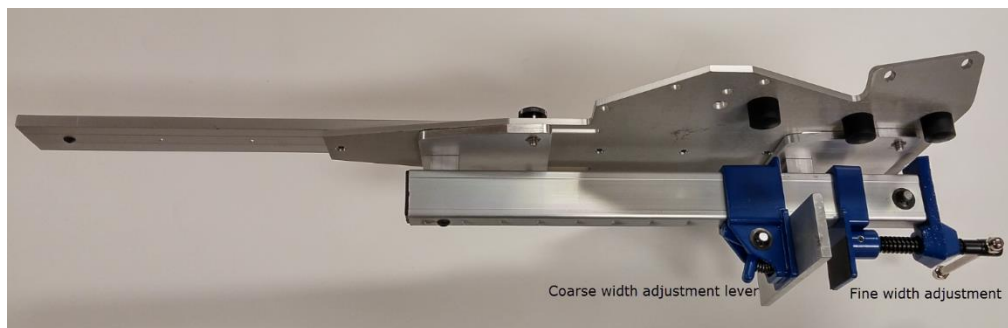

Figure 13
- 2) Adjust the clamping adapter to the width of the antenna lip. Use the coarse width adjustment lever first, then use the fine adjustment lever to secure the mount to the antenna. **See Figure 13**